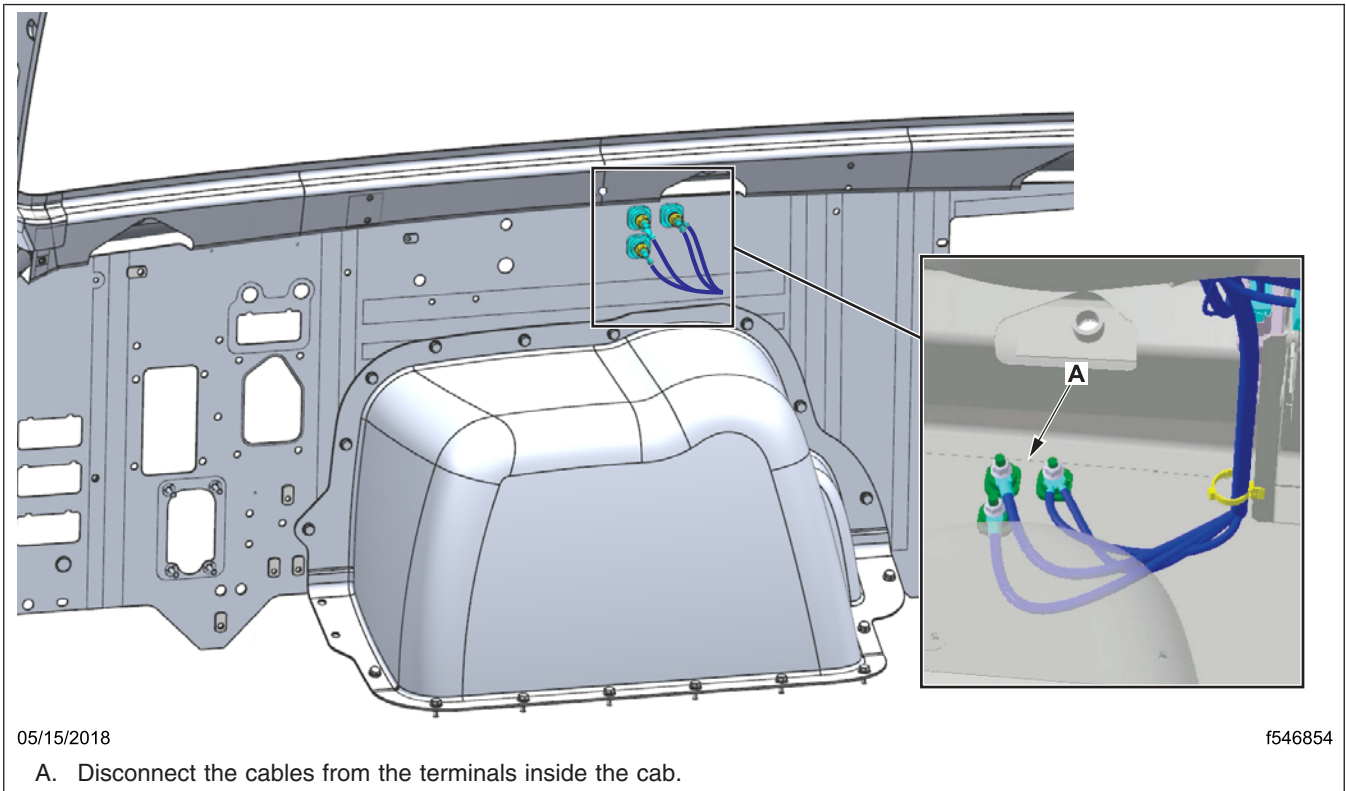

Fig. 5, Location of Front-Wall Power Terminals (inside the cab)
4. Disconnect the cables from the terminals inside the cab. See Fig. 5